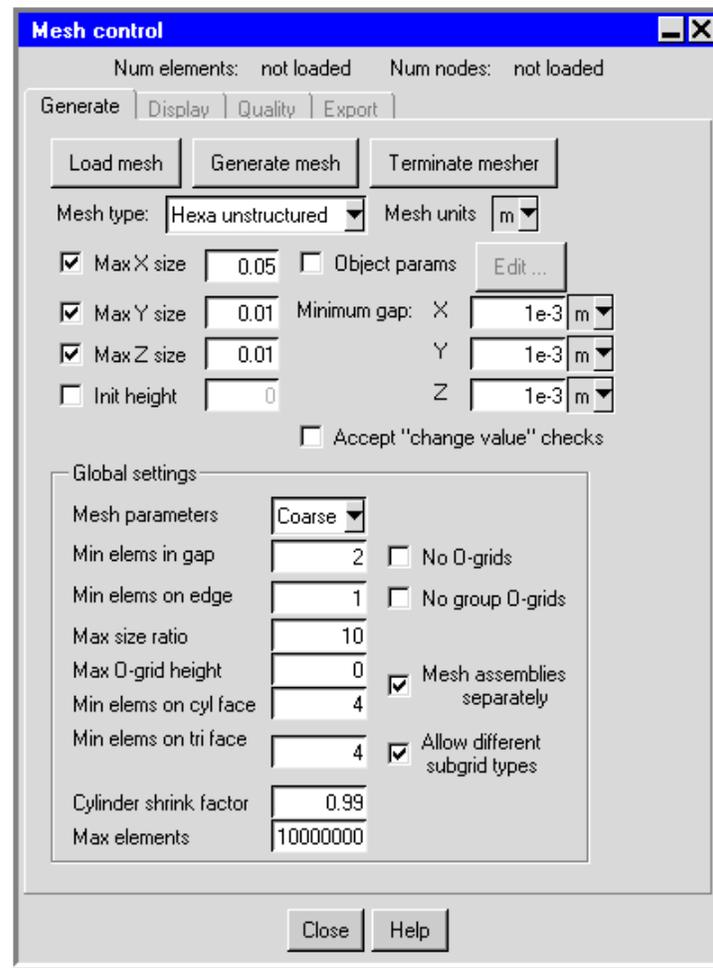

Figure 26.4.1: The Mesh control Panel for the Hexahedral Mesher
1. Open the Mesh control panel (Figure 26.4.1) by selecting **Generate mesh** in the **Model** menu, or by clicking on the  button in the **Model and solve** toolbar.
1. Open the **Mesh control panel** (Figure 26.4.1) by selecting **Generate mesh** in the **Model** menu, or by clicking on the  button in the **Model and solve toolbar**.
1. Open the Mesh control panel (Figure 26.4.1 or 26.4.2) by selecting **Generate mesh** in the **Model** menu, or by clicking on the  button in the **Model and solve** toolbar.